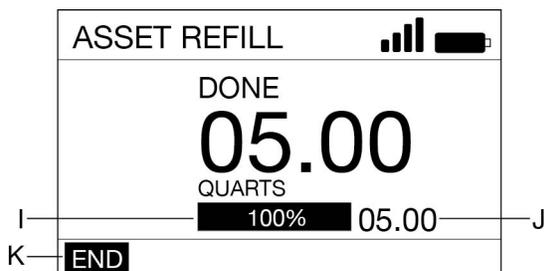

FIG. 42
9. END (K) highlights on the screen, press ENTER to select (FIG. 42).